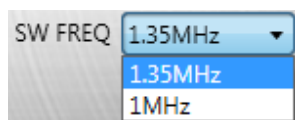

Figure 18: Setting the SW Frequency
16. Set the switching (SW) frequency between 1.35MHz and 1MHz.
- The default value is 1.35MHz (see Figure 18).